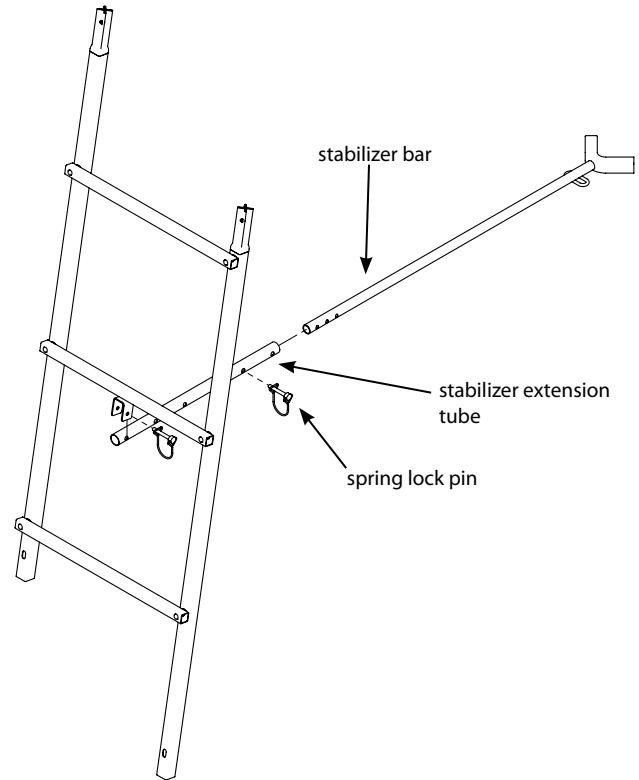

Figure 8
13. a. Attach the stabilizer bar extension tube (410075) to the second ladder section mounting bracket using (1) provided spring lock pin. **SEE FIGURE 8.**
- b. Slide the stabilizer bar (410073) into the extension tube and attach the two pieces together using (1) provided spring lock pin. Spring lock pin must go through both the extension tube and stabilizer bar at appropriate hole to achieve desired distance from tree. Adjustment in length may be needed when ladder is uprighted later in instructions. **SEE FIGURE 8.**